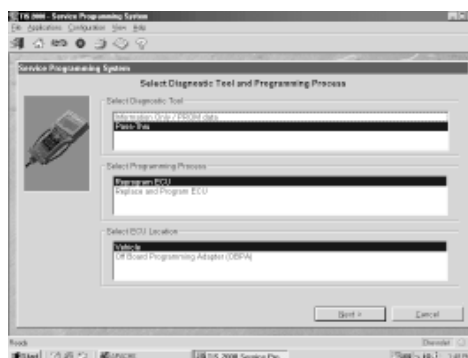

Figure I-42, Select Diagnostic Tool and Programming Process screen
2. At the Select Diagnostic Tool and Programming Process screen (Figure I-42), **select** Pass-Thru, Reprogram ECU, and Off-Board Programming Adapter as the ECU location. **Select** Next.